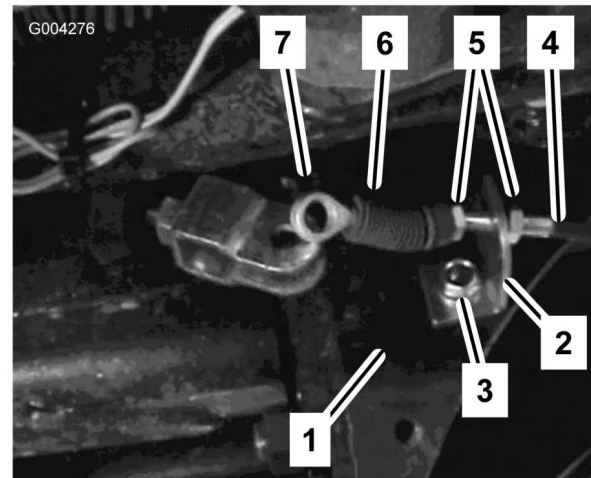

Figure 22
tighten the fastener to allow for adjustment (Figure 22).
15. Slide the rubber cowl on the lock out cable toward the ring linkage to expose the adjustment nuts (Figure 22).
16. Loosen the adjustment nuts on the lock out cable to separate them and slip the cable into the bracket groove (Figure 22).